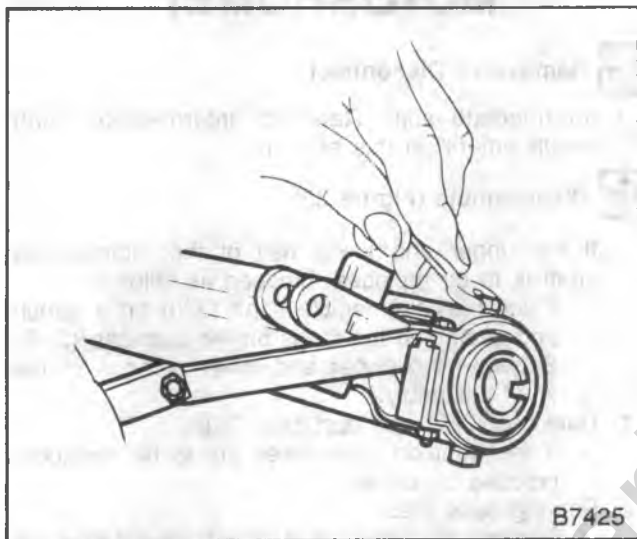

Figure 33—Shift Tube Adjustment — Manual Transmission
2. Clamp (316), bolt (317), washer (318) and nut (319). Maintain the clearance dimension shown in figure 33.